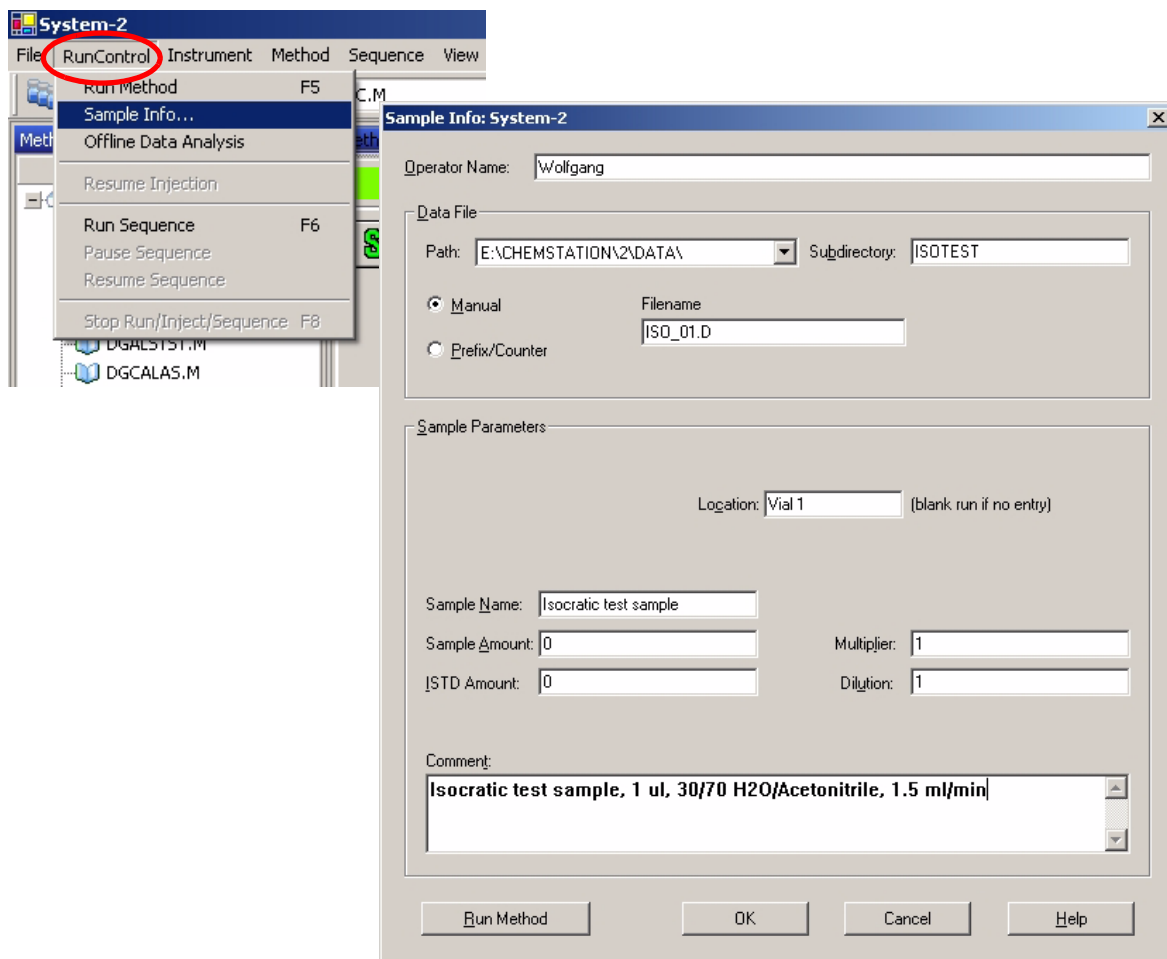

Figure 18 Sample Information
- 14 Select the menu item *RunControl* -> *Sample Info* and enter information about this application (Figure 18 on page 53). Press *OK* to leave this screen.